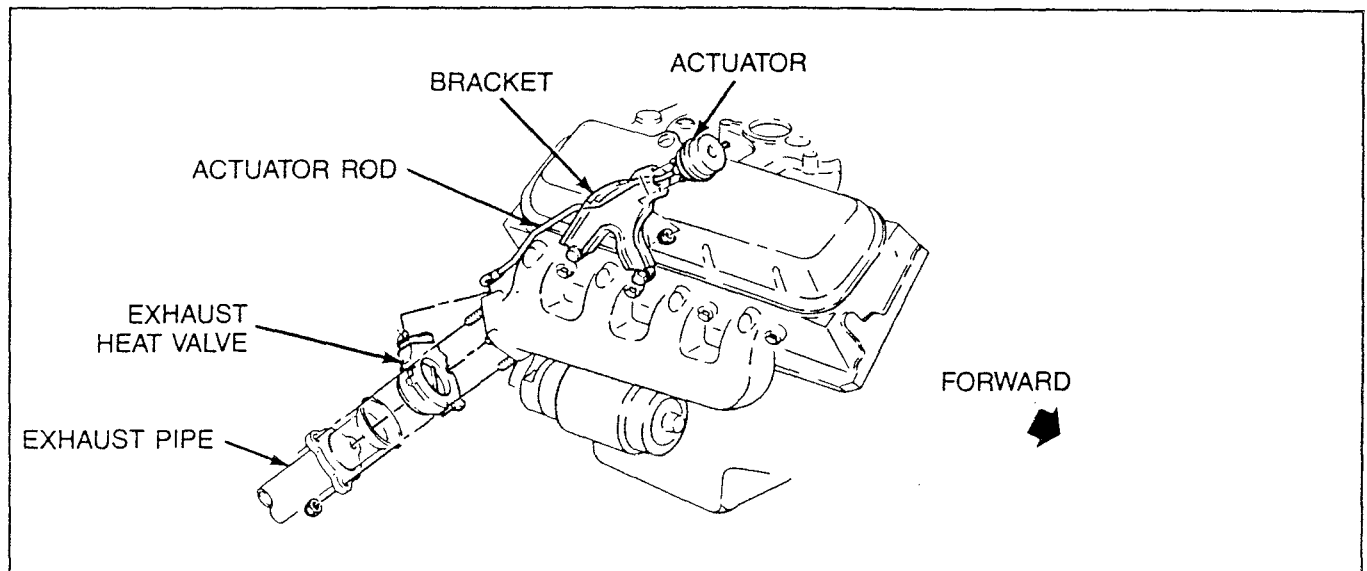

Figure 7-50 — Exhaust Heat Valve — EFE System
- Visually inspect the exhaust heat valve (Figure 7-50) for damage or binding linkage.